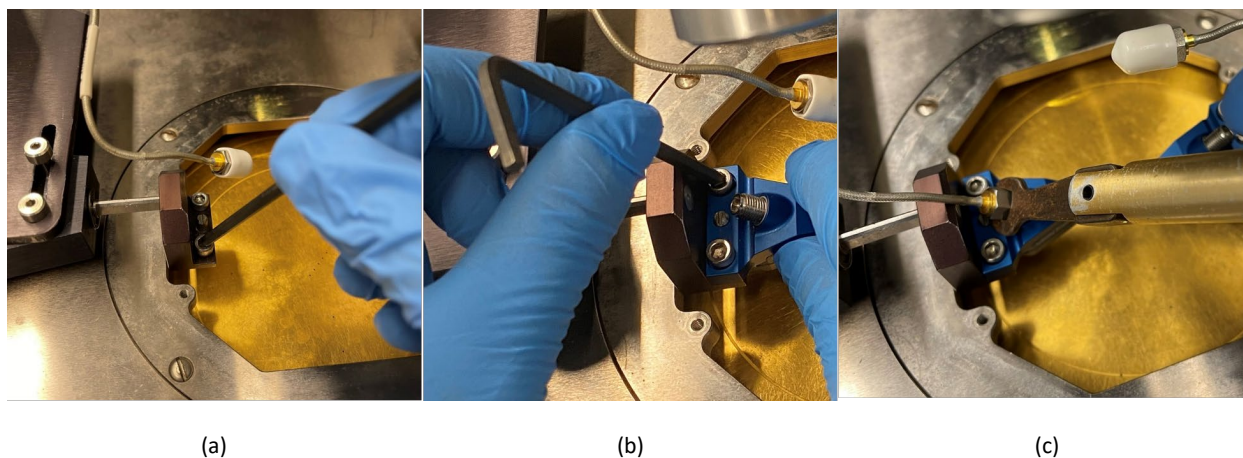

Fig. 3.1. (a) Removing screws, (b) mounting a probe, and (c) connecting the probe to the semiflexible cable.
- 3.1 Remove the mounting screws from the probe positioners [Fig. 3.1(a)]. If necessary, use the Allen wrench from the accessory box on the table to loosen them before turning them by hand.
- 3.9 Further tighten the screws by turning the short arm of the Allen wrench [Fig. 3.1(b)]. Don't use the long arm of the Allen wrench for more leverage. **Never overtighten the mounting screws!** Otherwise, the screw thread can be tripped and the probe positioner damaged.
- 3.12 While holding the cable with one hand to prevent it from turning, use the other hand to grab the torque wrench from the accessory box for the final tightening of the connector [Fig. 3.1(c)]. Stop as soon as the spring-loaded torque wrench clicks at the preset torque of 8 inch-pound. **Never turn a clicked torque wrench for extra torque!**